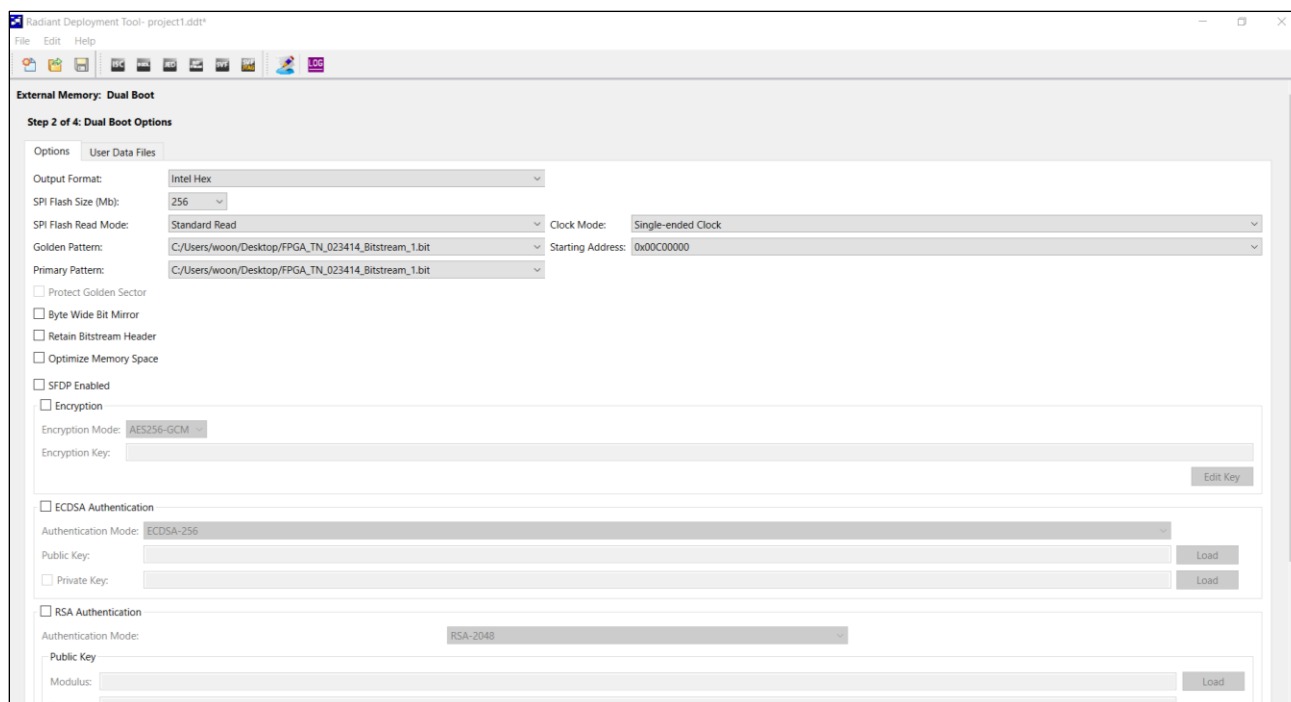

Figure 7.3. Dual Boot Options Window
Step 2 of 4: Dual Boot Options window (Figure 7.3)